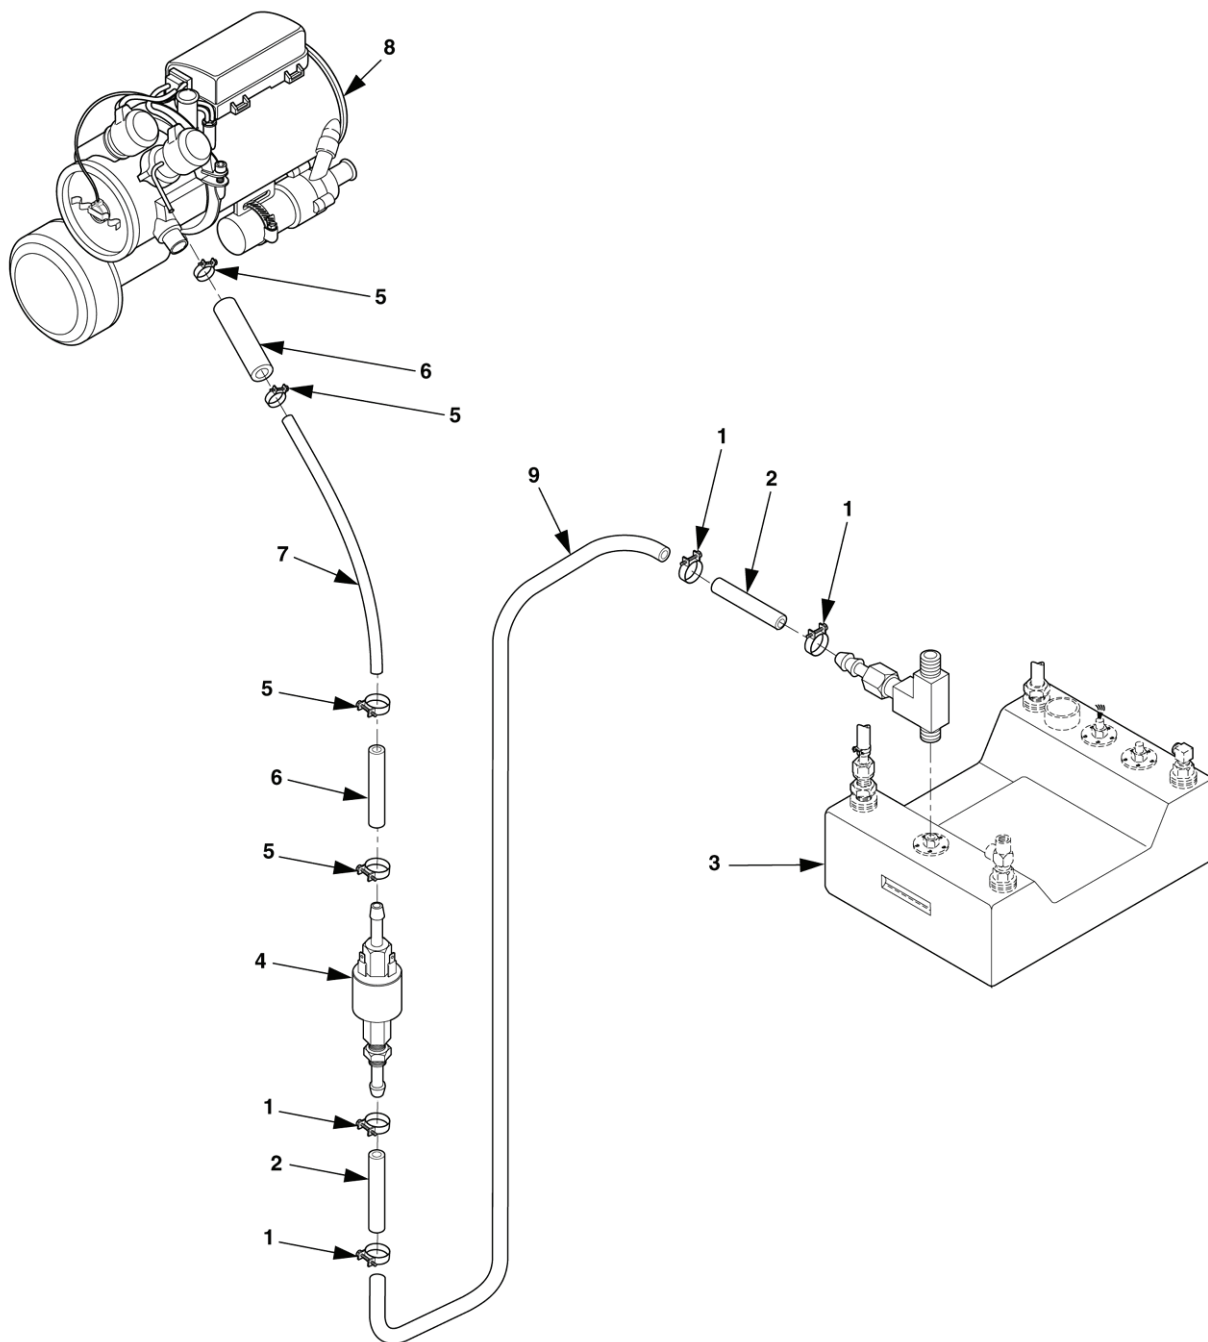

Figure 1. Fuel Line Maintenance.
1. Install a new fuel line (Figure 1, Item 9) and butt splices (2) between primary fuel tank (3) and fuel pump (4), securing with screw clamps (1).
2. Install a new fuel line (7) and butt splices (6) between fuel pump (4) and heater (8), securing with screw clamps (5).